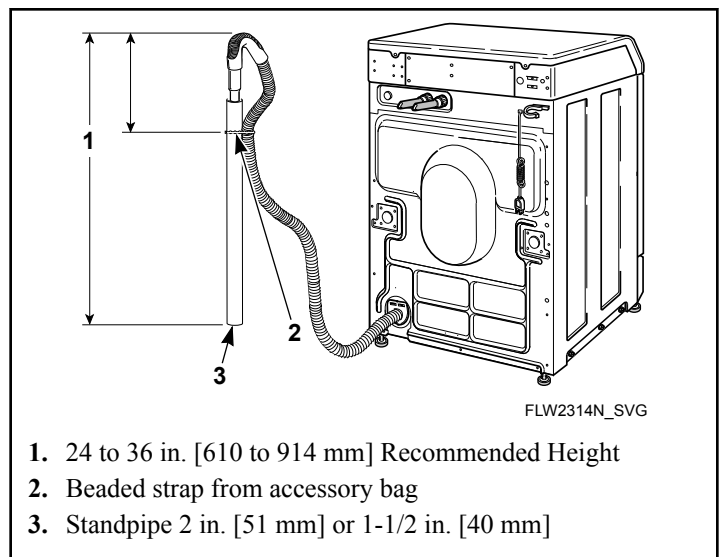

Figure 8
- Remove the beaded tie-down strap from accessories bag and place around standpipe and drain hose. Refer to Figure 8 .